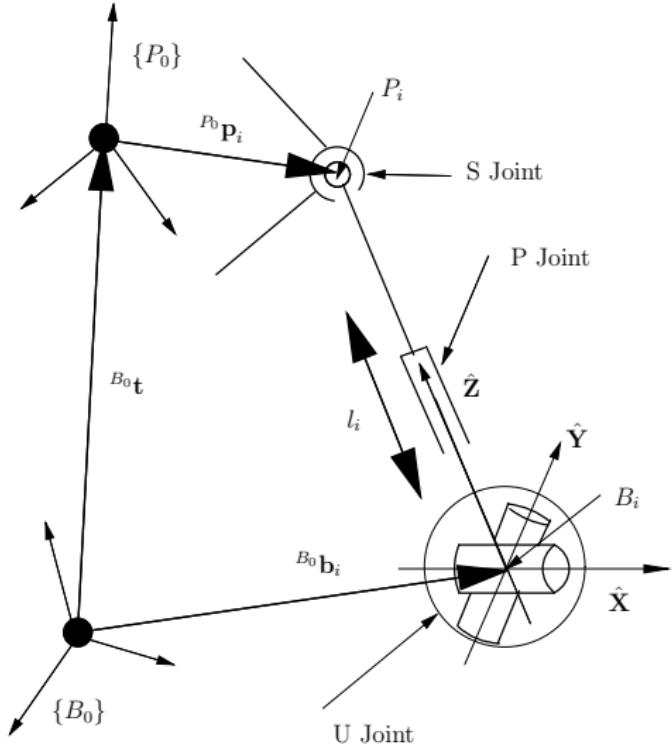

Figure 16: A leg of a Stewart platform
- From Figure 16, an arbitrary platform point P_i can be written in $\{B_0\}$ as